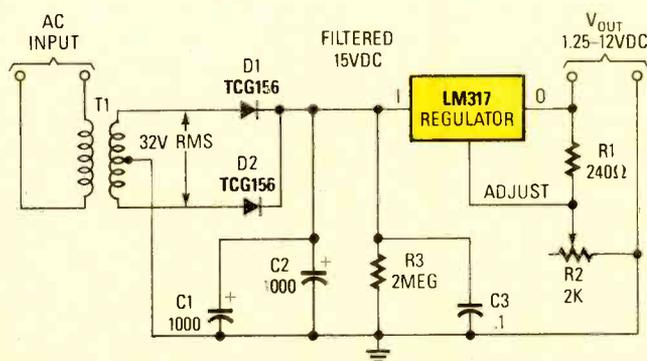

Fig. 7. You could actually construct the variable-output power supply shown here. It can supply your workbench with 1.25 to 12 volts DC.
**Variable Output.** Every three-terminal regulator requires a common terminal to act as a reference level for the input and output voltages. In a fixed-output application that terminal is usually connected to the supply ground. Some regulators can reference a voltage above ground that will offset and adjust the output voltage of the device. The LM317 is an example of an adjustable power regulator ideally suited for use in variable supplies. Figure 7 is a schematic diagram of an adjustable power supply using an LM317 regulator.